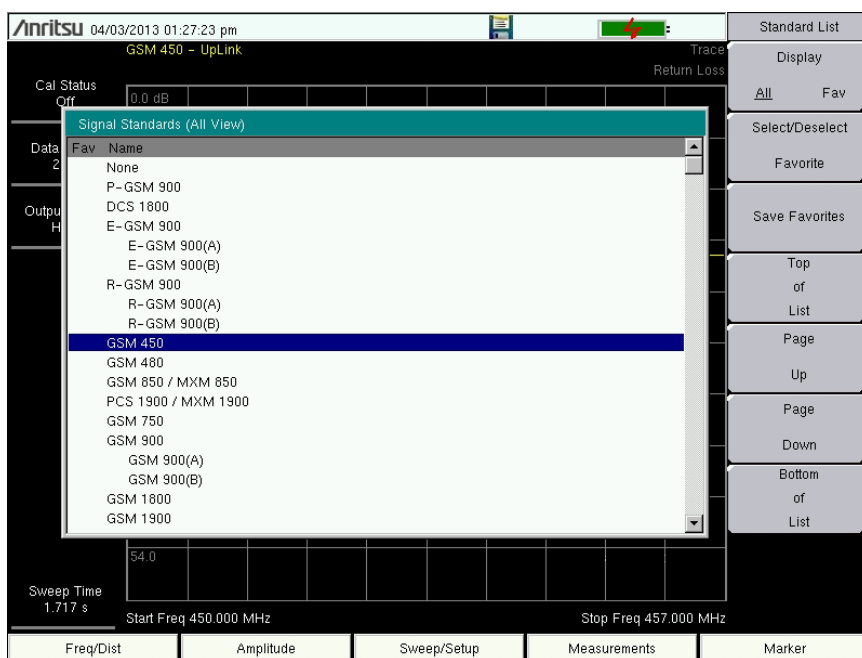

Figure 2-7. Signal Standards
3. Under the **Freq/Dist** main menu key, use the Start Freq and Stop Freq submenu keys to set the Start and Stop frequencies. Or enter a known signal standard by pressing Signal Standard submenu key followed by Select Standard (Figure 2-7).